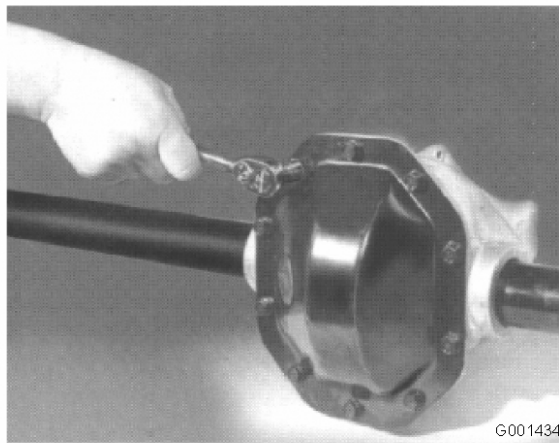

Figure 6
2. Remove the ten cover plate screws (Figure 6). Retain the fasteners